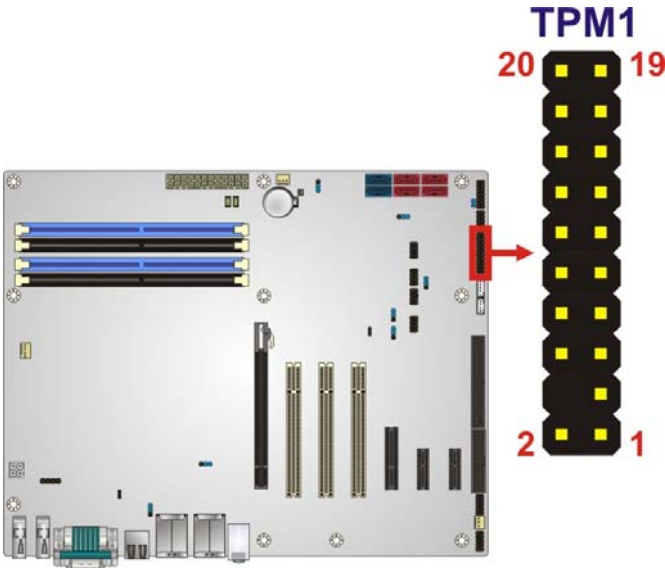

Figure 3-24: TPM Connector Location
- CN Location:** See **Figure 3-24**